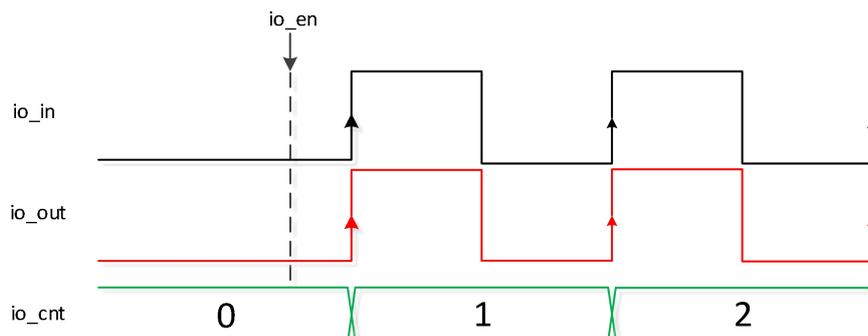

Fig. 5 Low level initiated rising edge counting (pulses not divided)
- Starts when `io_in` is low and counts from the first rising edge, as shown in Figure 5